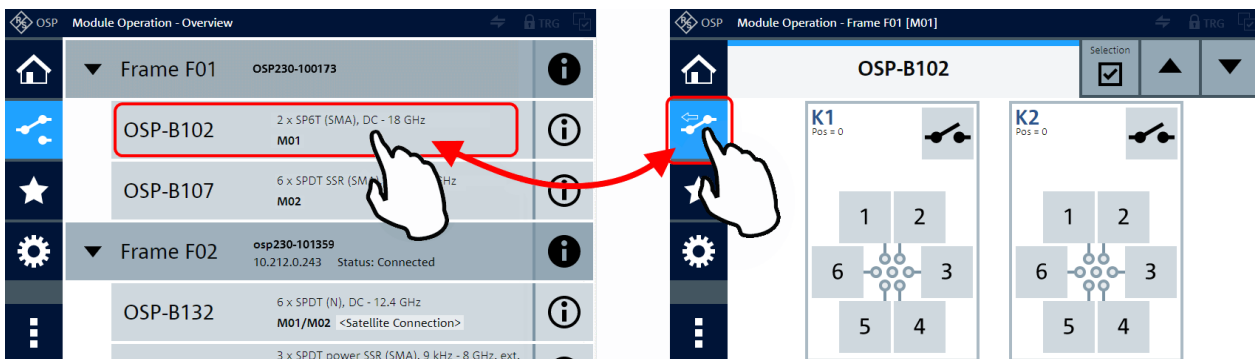

Figure 6-11: List of frames and modules (left), individual module interaction dialog (right)
- Individual module **operation** in the right-hand dialog in Figure 6-11 is described in section "Switching Relays and Channels" on page 193.
- If you see the interaction dialog of one switch module (as on the right in Figure 6-11), click the "Module Operation" button  to see the list of installed modules (as on the left in Figure 6-11). In the icon of the "Module Operation" button, the "back" arrow (available with firmware versions from 1.40) indicates that it brings you back to the list. To see the interaction dialog of any module, click its name in the list.